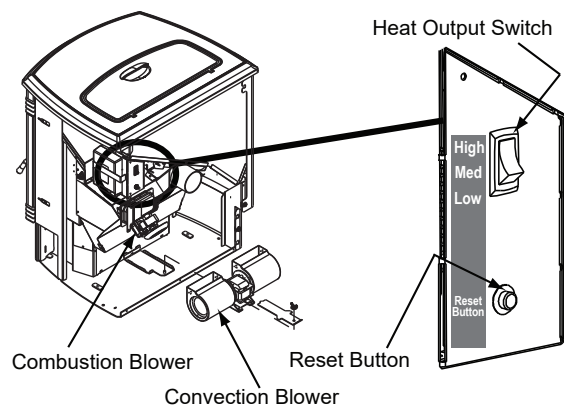
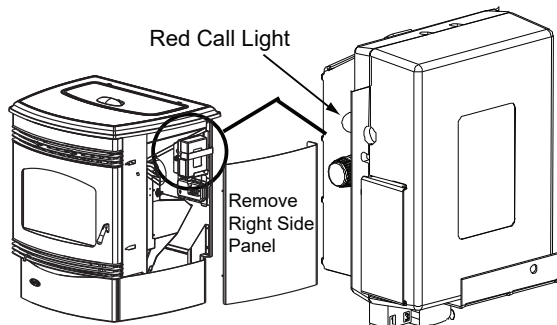

Figure 10.1
Figure 11.1
This appliance is equipped with a heat output control switch that has three settings or burn rates; low, medium and high. The appliance will turn on and off as the thermostat demands. When the thermostat calls for heat, the appliance will start up at the burn rate for which it is set. If the appliance is set at one of the lower settings, it will run quieter but take longer to heat up an area than if it were set at a higher burn rate. Regardless of the burn rate, when the area is warm enough to satisfy the thermostat, the appliance will shut off (**Figure 10.1**).
3. Locate the heat output control switch mounted on the back of the appliance in the upper right corner (**Figure 10.1 on page 10**). Turn it to the “high” setting by pushing the top of the control switch in and then adjust the thermostat to its highest setting. Remove the right side panel and the red call light located to the left of the control box will be on (**Figure 11.1**). This indicates the thermostat is calling for heat.
3. Occasionally the appliance may run out of fuel and shut itself down. When this happens, the red call light will be on (**See Figure 11.1 on page 11**). To restart it, fill the hopper and press the reset button (**See Figure 10.1, page 10**). When you press the reset button the red call light will go out. Release the button and the light will come back on. You should see a fire shortly. If not, follow the instructions on **page 8**, of "Starting Your First Fire".